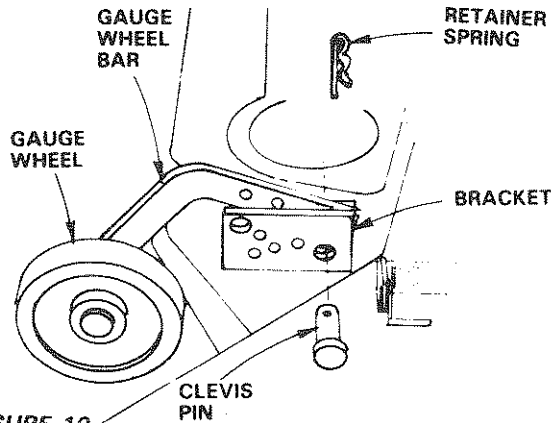

FIGURE 10
- Insert gauge wheel bar into bracket. Retain with clevis pin and retainer spring found assembled to gauge wheel bracket (Fig. 10). Repeat for other gauge wheel.